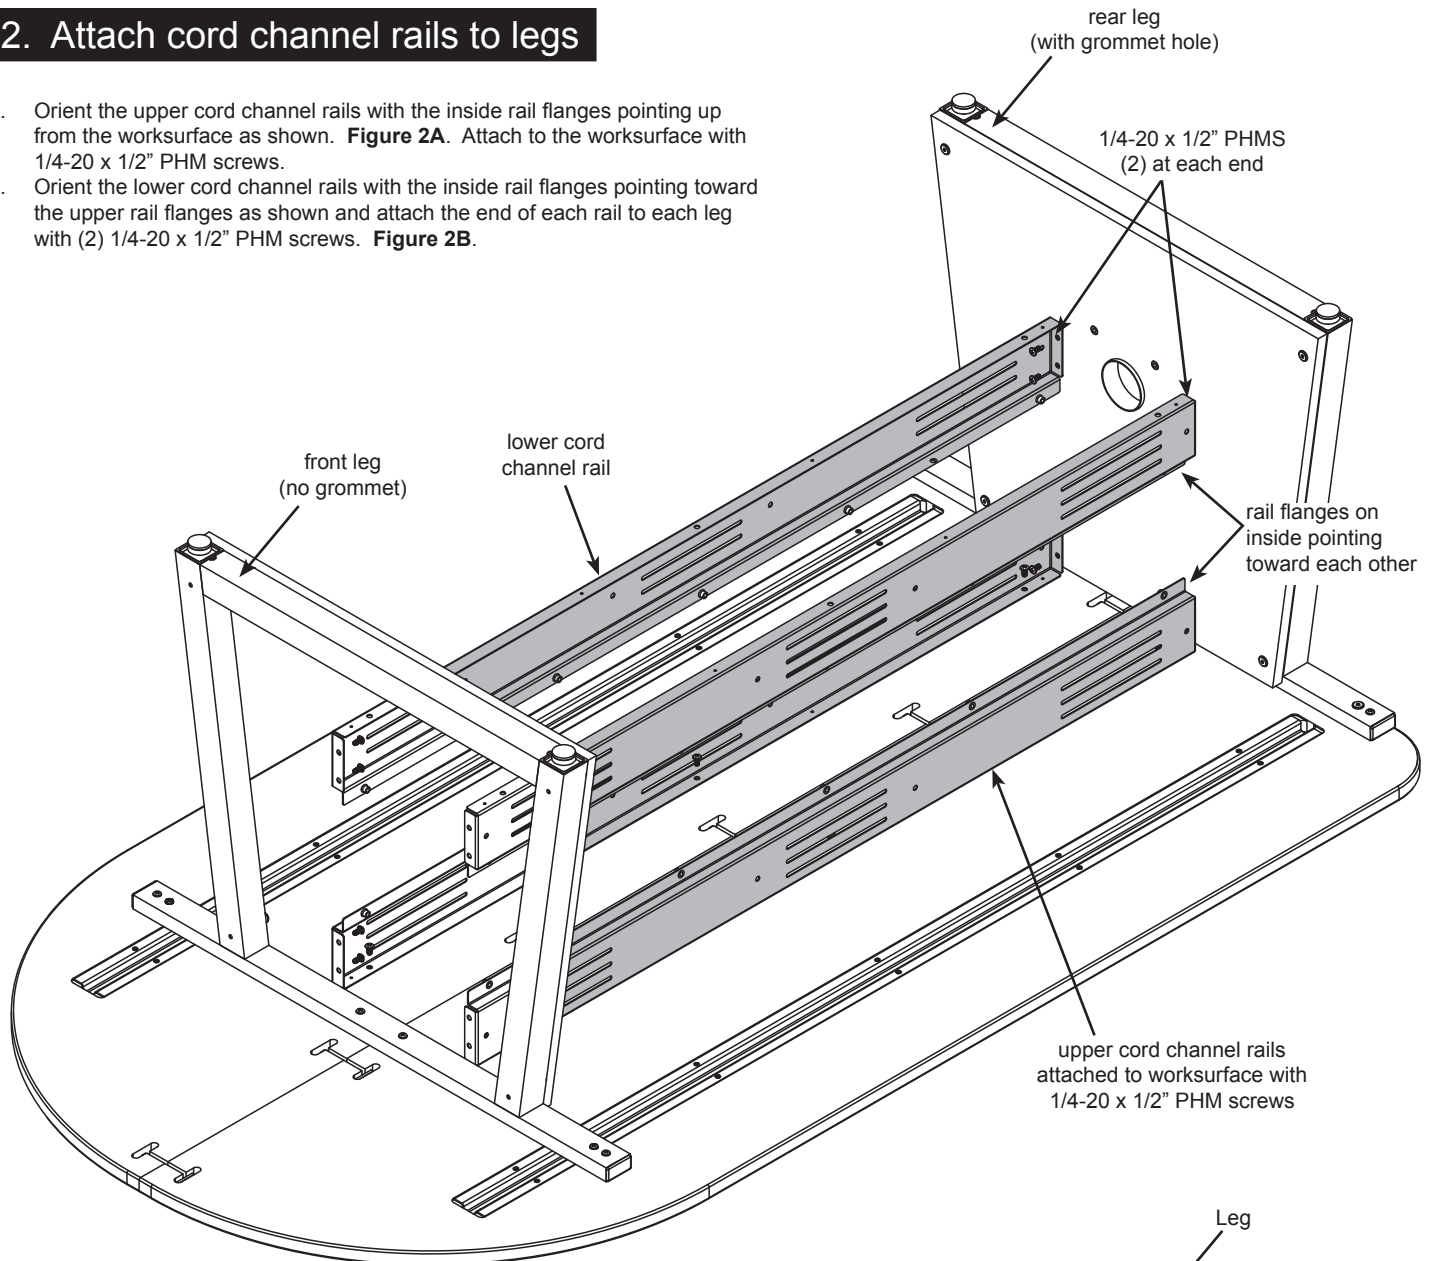

Figure 2A
- A. Orient the upper cord channel rails with the inside rail flanges pointing up from the worksurface as shown. **Figure 2A.** Attach to the worksurface with 1/4-20 x 1/2" PHM screws.